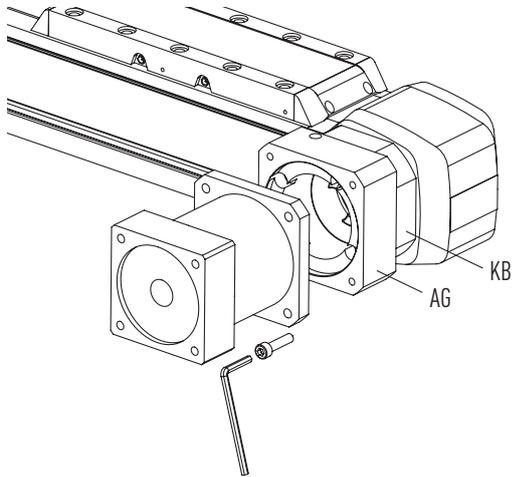

Fig. 6.59 Bolting the gears to the linear axis
- ▶ Place the gears flat on the gear adapter plate AG (see Fig. 6.59).